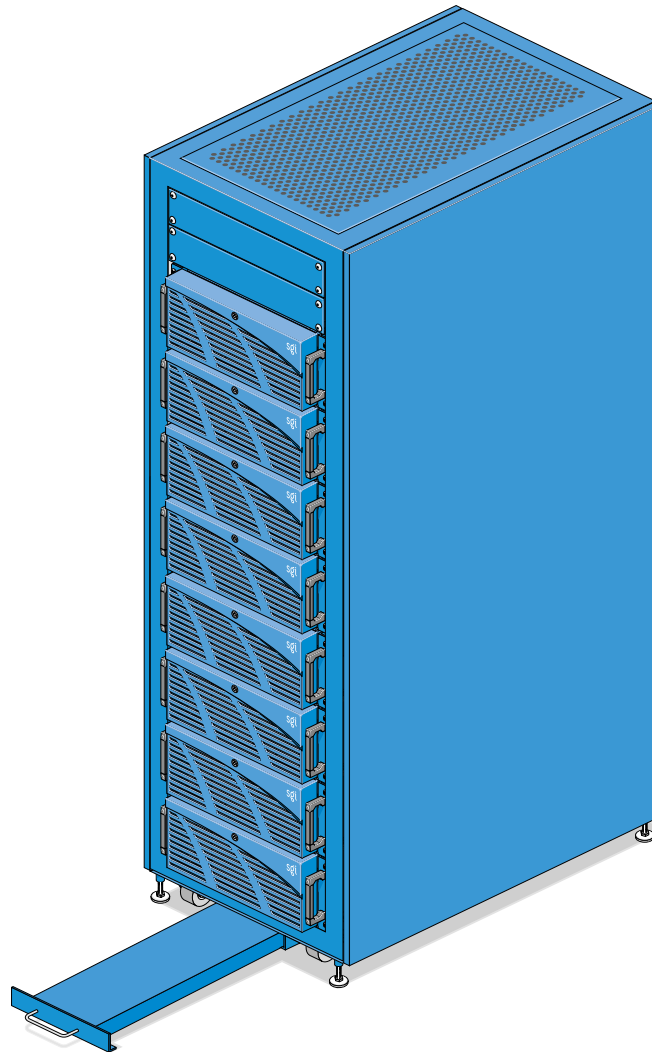

Figure 4-15 Pulling Out the Anti-tip Shelf
6. Pull out the rack's anti-tip shelf; see Figure 4-15.
2. Pull out the anti-tip shelf; see Figure 4-15 on page 56.